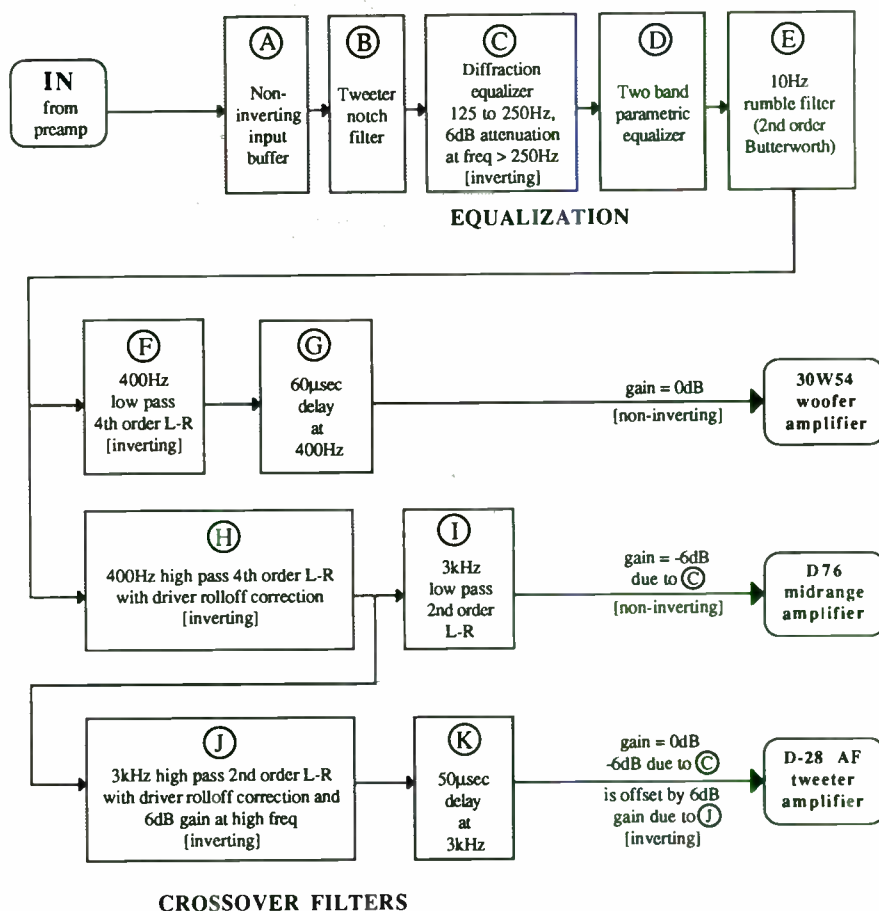
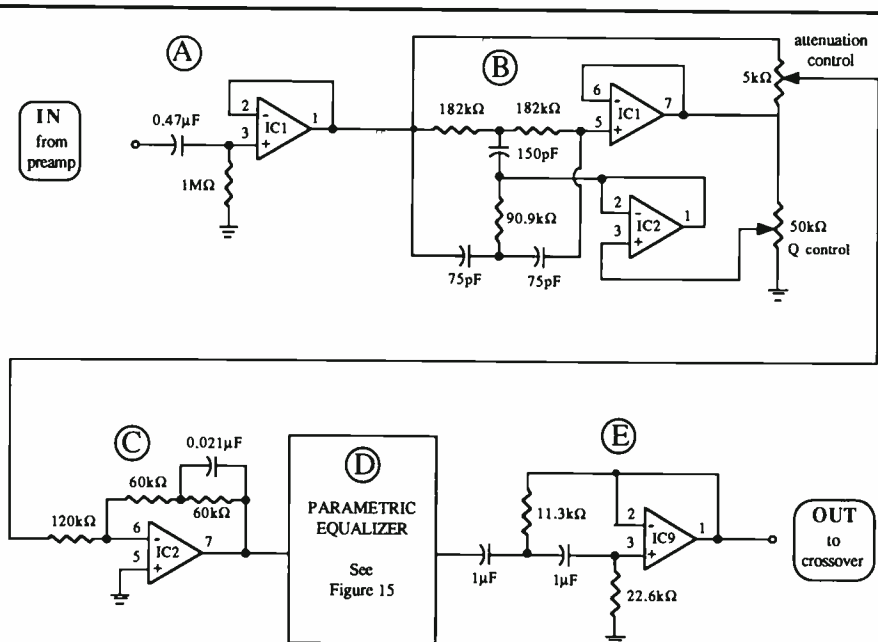

FIGURE 12: Electronic crossover topology for one channel.
FIGURE 14: Circuit diagram of the input buffer (A), tweeter notch filter (B), diffraction equalizer (C) and the rumble filter (E).
CROSSOVER TOPOLOGY. Now we have enough information to plot the strategy for our circuit design (Fig. 12). Equalization adjustments should be completed before the signal reaches the crossover's
As noted previously, our diffraction equalizer (C in Fig. 12) will compensate for the diffraction loss occurring within the frequency range of both the woofers and the midrange drivers. Equalization will also include a tweeter notch filter (B), a two-band parametric equalizer (D) and a rumble filter (E). The parametric equalizer allows adjustment of frequency and bandwidth (i.e., adjustable Q) for two bands in each channel. The equalizer is targeted for low frequencies (< 1kHz), where room interactions are most prominent. A rumble filter protects the woofers from unwanted excursions in subsonic frequencies that can occur in our TL below 10Hz where the acoustic impedance of the line quickly approaches zero.
Once you equalize your input signal, you can divide it into the three frequency ranges to drive the three amplifiers (see the "Crossover Filter" section of the topology in Fig. 12). Originally I experimented with odd-ordered Butterworth filters in conjunction with my symmetric drivers, as suggested by D'Appolito,^{2,27} to yield a stable vertical polar response without the sharp nulls $\pm 46^\circ$ off-axis when even-ordered Linkwitz-Riley (LR) filters are used and the interdriver distance is two-thirds a wavelength at crossover. After I did so, I tried to solve the problem of floor reflection cancellations (discussed later).
One solution is the layout of the crossover topology where the signal is first divided between the low and mid frequencies (F and H in Fig. 12). Next the output from the high-pass section (H) is further divided between the mid and high frequencies (I and J in Fig. 12). Finally, D'Appolito adds a phase-compensating network immediately following the woofer low-pass filter (F). Deleting the phase-compensating network results in only a -0.2dB deviation from flat summed response if even-ordered LR filters are used and if they are separated by three octaves.²⁹ Since a -0.2dB deviation is small, I omitted the phase compensation network.
At higher frequencies small changes in microphone location make a large difference in phase shift, so do not move the microphones from their position in front of the grilles throughout the test. The phase shifts I have plotted for Fig. 13 are corrected for the additional distance from the center of midrange domes (0.06" or about $4\mu\text{S}$) and woofers (0.6" or $45\mu\text{S}$) to the listener than is the distance from the listener to the tweeter. Phase shifts plotted in Fig. 13 include the electronic time delay needed for minimum phase shift at the crossover point, i.e., $60\mu\text{S}$ delay for the woofer at 400Hz (G in Fig. 12) and $50\mu\text{S}$ delay for the tweeter at 3kHz (K in Fig. 12).
CIRCUIT DESIGN. The crossover topology illustrated in Fig. 12 was laid out on four 3677-2 Vector DIP plugboards: left and right equalizer boards (A through D) and left and right crossover filter boards (E through K). I mounted them into a rack mount enclosure. All ICs are dual op amp Signetics NE5532, except for ICs 3 and 8 which are single op amp Signetics NE5534. All ICs are socketed and the power supply leads to each are bypassed with 0.1 μF monocraps. In addition, I used 100 μF bypass capacitors at the input supply to each board. All resistors are 1% metal film. All capacitors in the signal path are 2% polypropylene (Digi-Key, Thief River Falls, MN 56701), except for the 1 μF polyester film capacitors in section E of Fig. 14 and the silver mica capacitor with values less than or equal to 150pF. I used cermet trim pots, mounted at the end of the boards so that they can be easily adjusted. I was very careful to ensure compact, minimum-length layout and low resistance ground paths.³⁷
Figure 14 shows circuit diagrams for the input buffer, tweeter notch filter, diffraction equalizer and rumble filter. The input buffer is non-inverting, to keep the entire crossover from inverting the outputs to the woofer or to the midrange amplifiers and to keep the tweeter amplifier output inverted for the second-order LR crossover. I fixed the tweeter notch filter at 11.5kHz with adjustable Q and attenuation (see Fig. 5-29 of Jung's book).³⁷ I set the trim pots of the filter to yield -3.5dB at 11kHz, -2dB at 8 or 16.5kHz, and -1 at 6 or 23kHz. I set the inverting diffraction equalizer (C) for $f_1 = 126\text{Hz}$ and $f_2 = 253\text{Hz}$, utilizing the D'Appolito circuit design.² Let the capacitor in (C) equal 0.021 μF , where R_2 is the 60k resistor parallel to C and R_1 is the other 60k resistor in the feedback loop, given the relationship $f_1 = 1/(2\pi CR_2)$ and $f_2 = (R_1 + R_2)/(2\pi CR_1 R_2)$. The 120k resistor at the input to pin #6 of IC2 sets the gain. The rumble filter (E) is a unity gain second-order HP Butterworth filter.³⁸ It is mounted on the crossover filter board because IC9 is shared with the 400Hz HP filter (F).